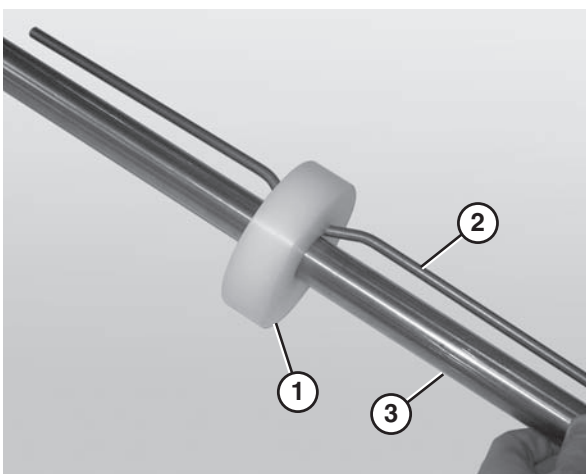

Figure 78
1. Place the idler puck (Figure 78, item 1) at the center of the bent retaining bar (Figure 78, item 2).
2. Slide the idler puck onto the idler shaft (Figure 78, item 3). Make sure to center the idler puck.